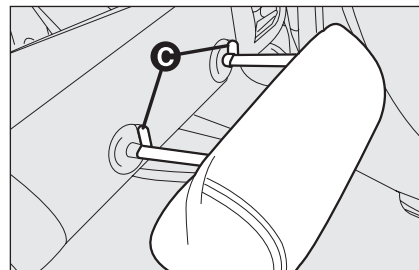

fig. 30
- press buttons **C-fig. 30** (set aside the two head restraint supports) then remove the head restraints by pulling them upwards.